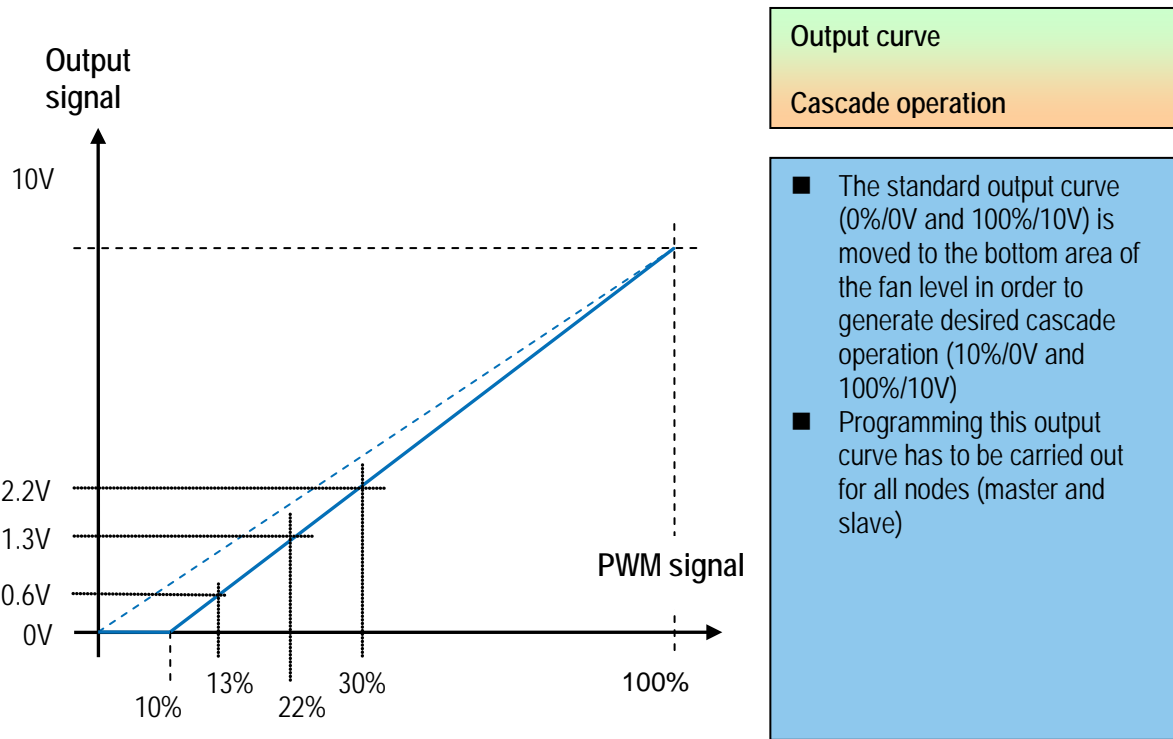

Fig. 48: Output curve for cascade operation
- Adapted output curve for master and all slaves, ex. Fig. 48
Fig. 48 shows an example of curve for which, at a low speed of the master, the slaves themselves take on an even lower speed in sequence. This should also lead to the last slaves in the chain being switched off.
- With output curve Fig. 48, on slave 1, a signal of approx. 2.2V is output
- With output curve Fig. 48, it outputs a signal of approx. 10V to slave 1
Fig. 49 shows the settings which must be carried out for the input and output curve in a cascade operation according to Fig. 48 in EC-Control. Here, it is important that the input characteristics are not changed and are set to the default settings. In addition to Fig. 49, the control mode PWM control with source of set values analogue Ain1 has to be selected for the slaves. The function Save set value to EEPROM has to be deactivated for the slaves while doing so.